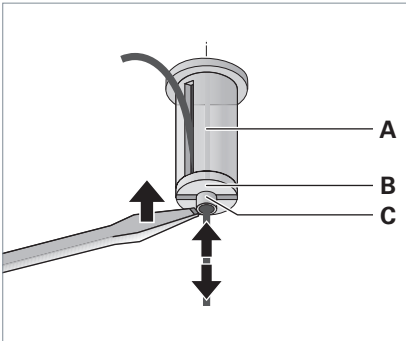

Fig. 4: Suspending the luminaire.
- ▶ Screw one wire rope holder **B** respectively into each ceiling fixture **A**, see Fig. 4.